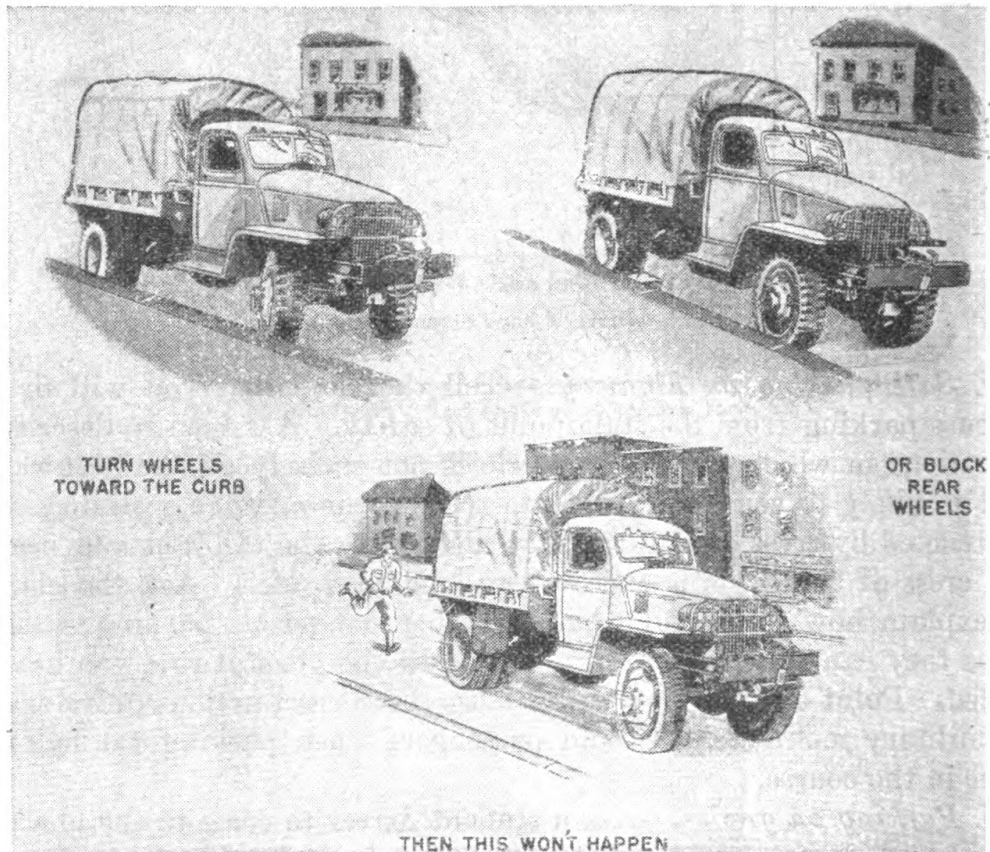

FIGURE 27.—Parking on a hill.
*b. Parking on grades.*—Ask a student driver to come to the blackboard and draw a rough sketch, showing how the front wheels of a vehicle should be turned when parking on an upgrade (outward from the curb). Have him also draw diagram showing how front wheels should be turned when parking on a down grade (inward toward the curb, as shown in fig. 27). Ask why the engine should be turned off while a vehicle is parked. Ask what other safety precaution is especially important. (Setting hand brake.) Point out that on a very steep grade, blocks may be used as a special precaution.
- (1) Never park closer than 15 feet to a fire hydrant.
(2) Never park vehicle so that any part of it extends over the crosswalk. Discuss this so as to bring out the reason. (Obstructs view of other drivers at intersections, blocks pedestrians crossing street, etc.)
(3) Obey parking signs, including the time limits. Do not double park where your vehicle will obstruct traffic and cause traffic congestion. Never park at an angle when parking parallel to the curb is prescribed.